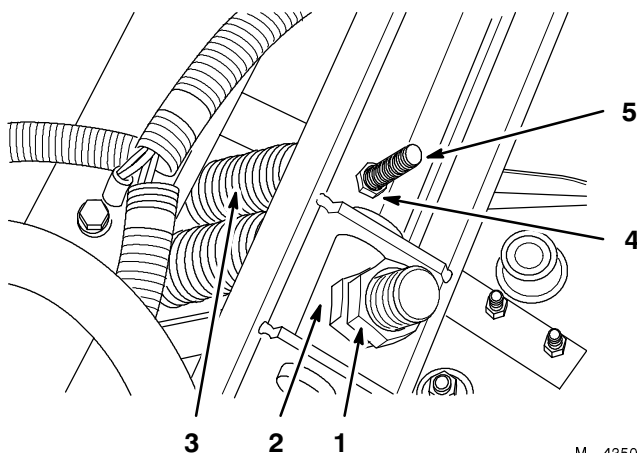

Figure 31
3. Measure distance between cylinder jam nuts and cylinder pivot pin (Fig. 31). Distance should be approximately 2-1/4 inch.